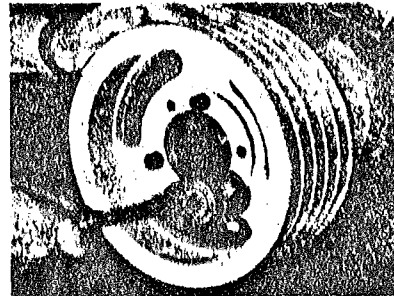

Fig. 4
2. Insert three cap screws (in JA through J Bushings) or two cap screws (in M through S Bushings) in tapped removal holes and progressively tighten each one until mating part is loose on bushing, Fig. 4. (Exception: If mating part is installed with cap screw heads next to motor, with insufficient room to insert screws in tapped holes, loosen cap screws and use wedge between bushing flange and mating part.)